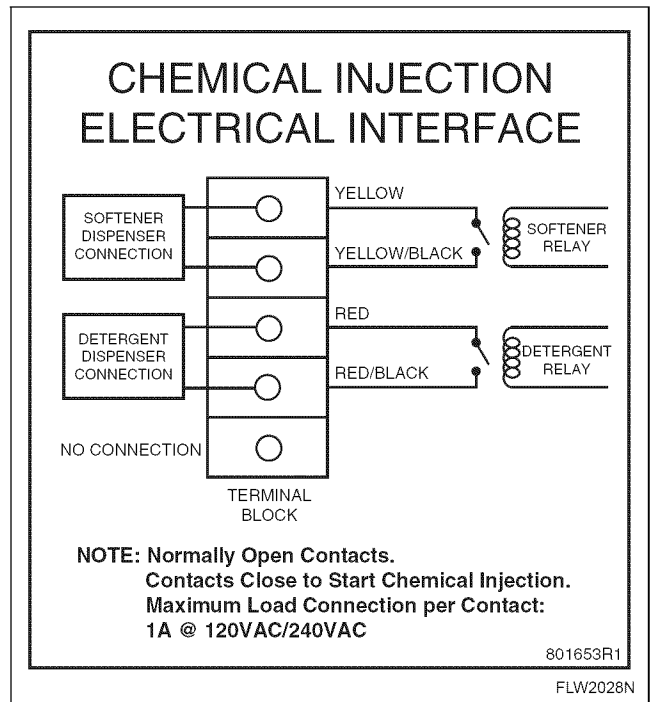

Figure 12
4. Refer to supply injection system instructions and label inside washer junction box cover (*Figure 12*) for electrical connection.
A junction box on the rear panel houses a terminal strip which furnishes supply output signals for the supply injection pumps. Refer to *Figure 12* for the injection interface label.